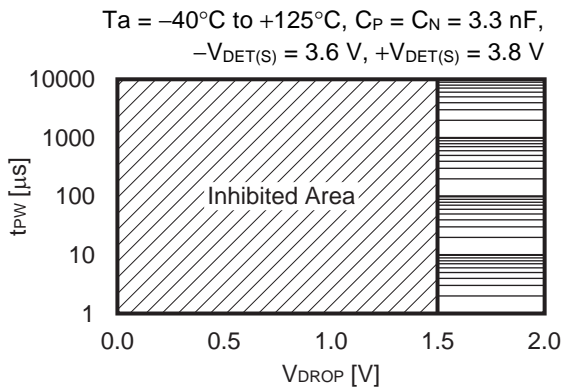

Figure 54
Figure 54 and **Figure 55** show the relation between pulse width (t_{PW}) and V_{DD} lower limit (V_{DROP}) where a release signal can be output after the normal release delay time has elapsed when the VDD pin (VDD detection product) instantaneously drops to the detection voltage ($-V_{DET}$) or lower and then increases to the release voltage ($+V_{DET}$) or higher during release delay time.
1. **Figure 54** and **Figure 55** show the input voltage conditions when a release signal is output after the normal release delay time has elapsed. When this is within the inhibited area, release may erroneously be executed before the delay time completes.
2. When the VDD pin voltage is within the inhibited areas shown in **Figure 54** and **Figure 55** during release delay time, input 0 V to the VDD pin then restart the S-19110 Series.